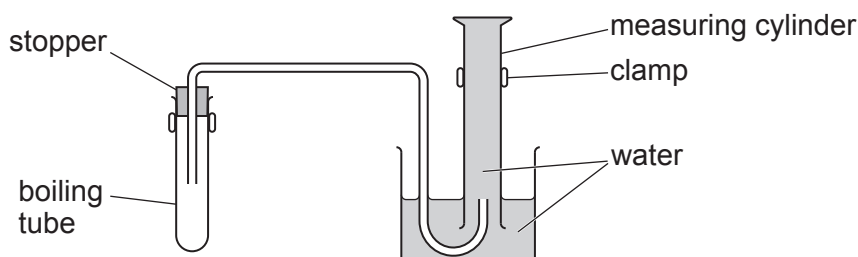

Fig. 1.1
1. The apparatus should be set up as shown in Fig. 1.1.